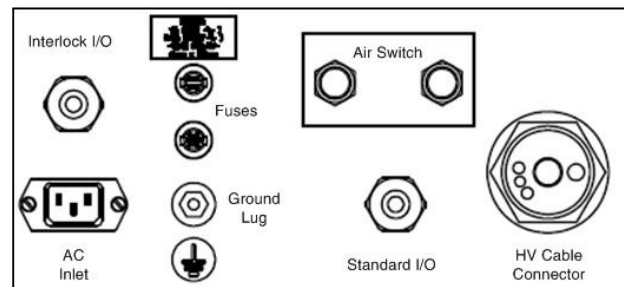

Figure 4: 9060 Connection Interface
The 9060 Controller connection interface shown in Figure 4, provides all of the required connections for setting up either a remote I/O controlled painting system or a local controlled painting system. This connection interface consists of one (1) high voltage cable connector, one (1) standard I/O connector, one (1) interlock I/O connector, one (1) ground lug connection, one (1) air flow switch connection, two (2) fuses, and one (1) AC inlet receptacle.